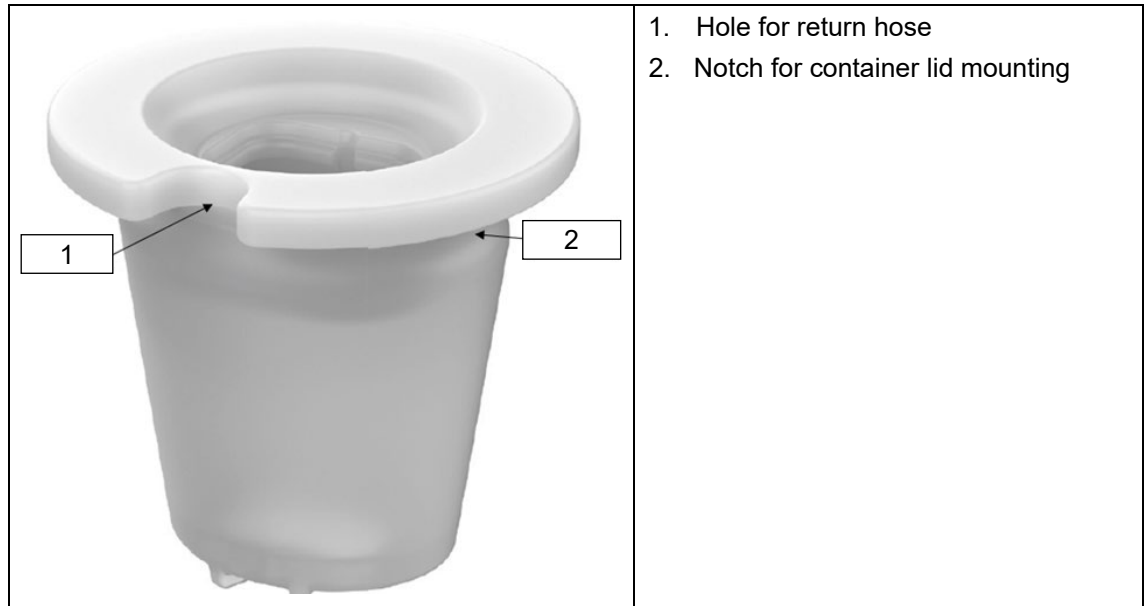

Figure 7
Once the connection is established, the eloLance can be placed directly into the container and fixed with the clamping cone (Figure 7). For larger container openings, a hole with a diameter of  $\varnothing 30+1$  mm can be made in the container lid. The notch in the clamping cone (Figure 7, item 2) serves to stabilise the eloLance in the container and can be screwed onto the container together with the container lid. (See chapter 5.4.4 Mounting the container lid on the clamping cone).
The clamping cone (Figure 7) has a multifunctional design and can be used in combination with a conventional container lid to mount the eloLance.
- ▶ Hold the clamping cone and push on the container lid until it is securely seated in the circumferential notch (Figure 7, item 2) of the clamping cone.
- *The hole on the clamping cone (Figure 7, item 1) serves as a hose feed-through.*
Prerequisite: Mounted container lid on the clamping cone (Figure 7).